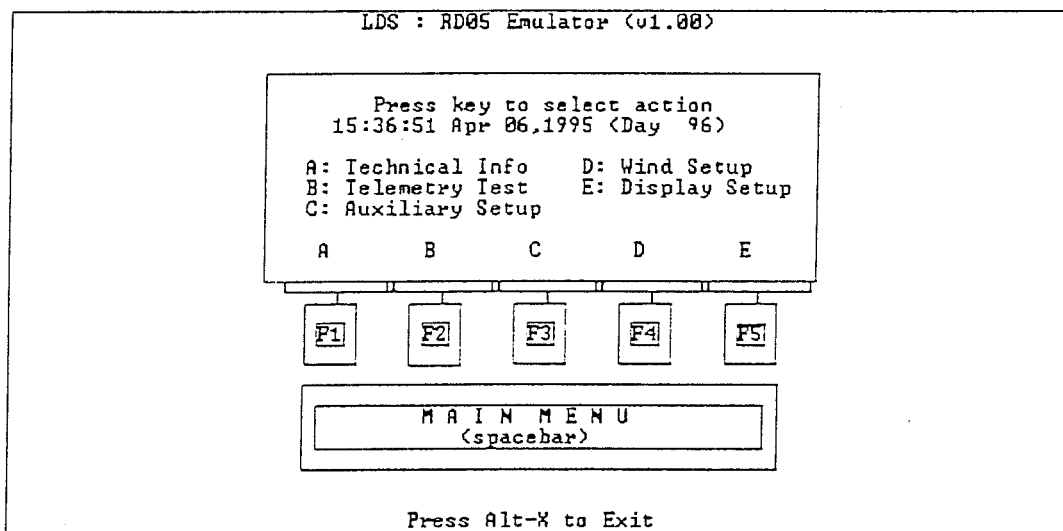

Figure 7-8
1. From the Main Menu select option "E: Technical menu" by pressing the F5 Function key on your computer keyboard. See Figure 7-8